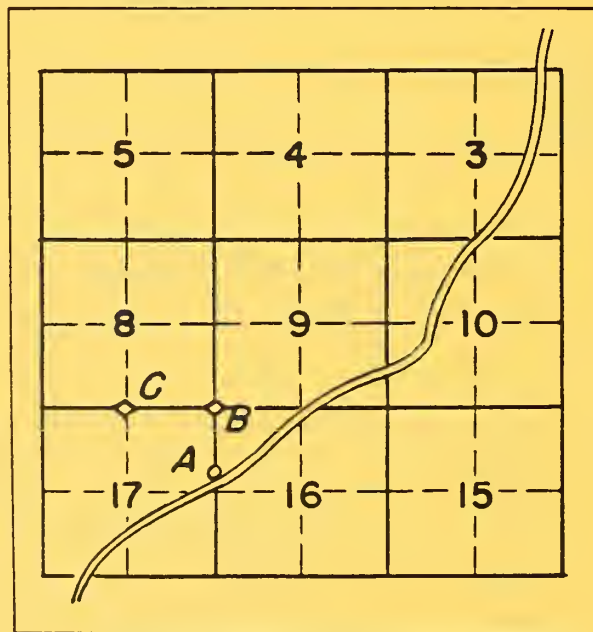

Figure 1.--Portion of a map showing typical points where location posters are commonly placed.
32.3 - Location Posters. Location posters, sometimes called section corner markers, section line markers, or cruiser tags, see figures 2 and 3, are used by State and Federal agencies, lumber companies, and private landowners to indicate the location of section corners and points where roads or trails cross section lines. These metal posters are 4-1/2 inches or 5 inches in size with black lines on a yellow background. In recent years, unpainted aluminum tags with the lines and lettering stamped on them, have been used. The township, range, and section are marked on the poster. A tack driven at the appropriate place on the poster shows where the poster is located according to the public land survey. Usually, the distance to a section corner is marked on the poster. On the map in figure 1, points B and C would probably be identified in the field by location posters similar to figure 2, and point A by a location poster similar to figure 3.